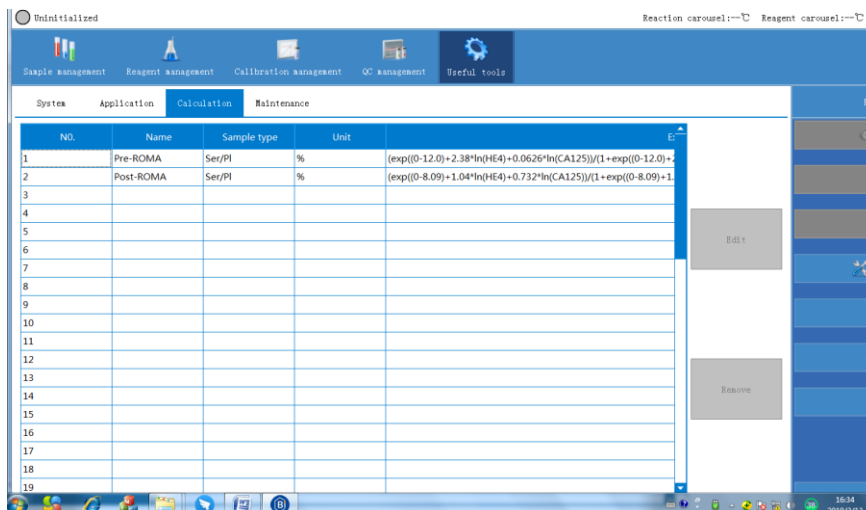

Figure. 8.7.11 Edit calculation item
- Select a blank line and click **Edit** to bring up the calculation item dialog box, as shown in Figure 8.7.11.